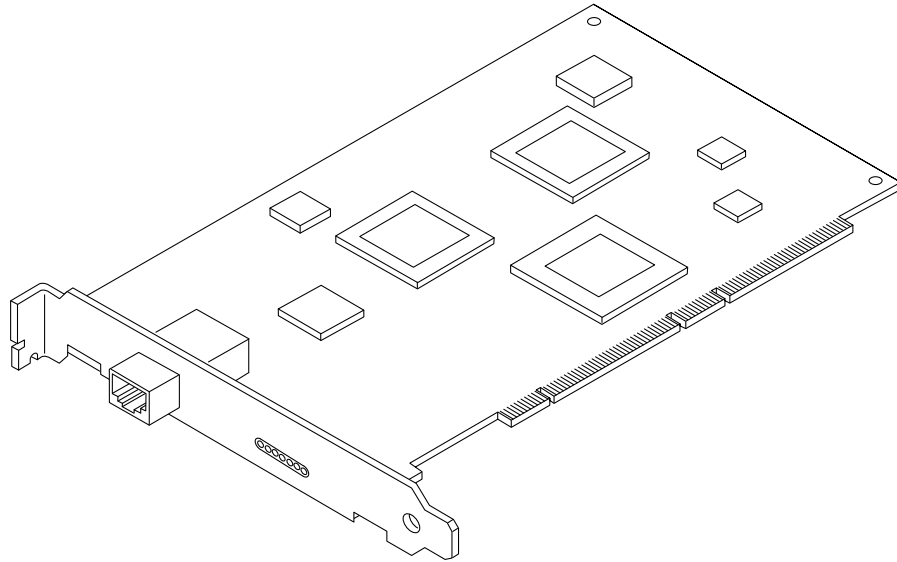

FIGURE 1-1 Sun GigaSwift Ethernet UTP Adapter
- FIGURE 1-1 Sun GigaSwift Ethernet UTP Adapter 2